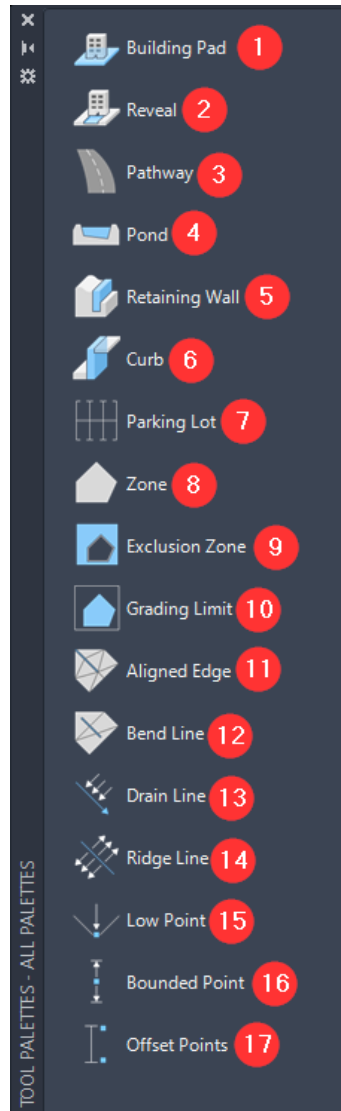

Figure 6.4 – The Grading Objects Tool palette
For now, let's go ahead and select **Grading Objects** (1) so that both the **Grading Objects** browser (2) and **Grading Objects Tools** (3) appear. If we first focus on the **Grading Objects Tool** palette that appears, we'll notice that we have many different types of grading objects that we can classify the 2D and 3D objects in our design as. From the top down, we have the following grading object classifications (also displayed in *Figure 6.4*):